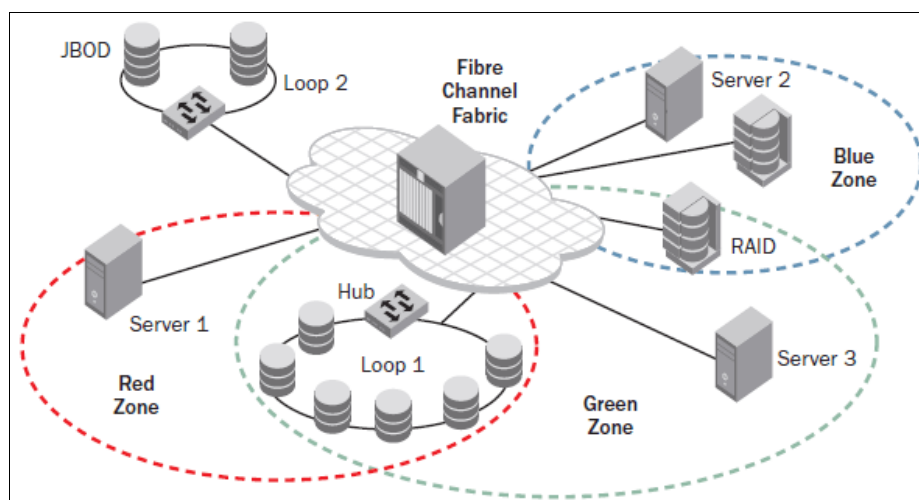

Figure 6-26 Example of single initiator zones
- ▶ Create zones with only one initiator (as shown in Figure 6-26) and ports from a single target device. Different target devices should not be zoned together. Specific zones should be created when different target devices need to communicate each other (that is, copy services).